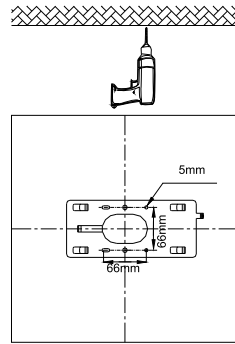

Figure 4
2. Drill the holes on the ceiling accordingly to fit the plate (Figure 4).